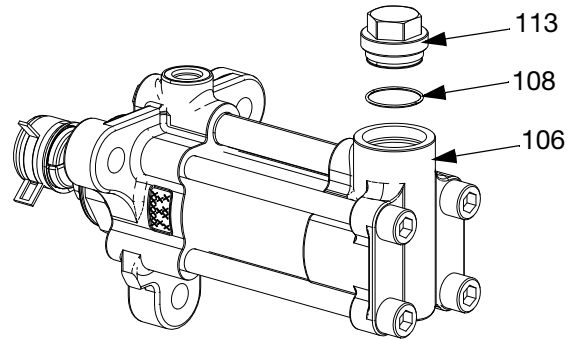

FIG. 6
2. Remove inlet hose and drain inlet housing (106).
3. Remove inlet valve cap (113) from inlet housing (106), and remove o-ring (108). See FIG. 6.